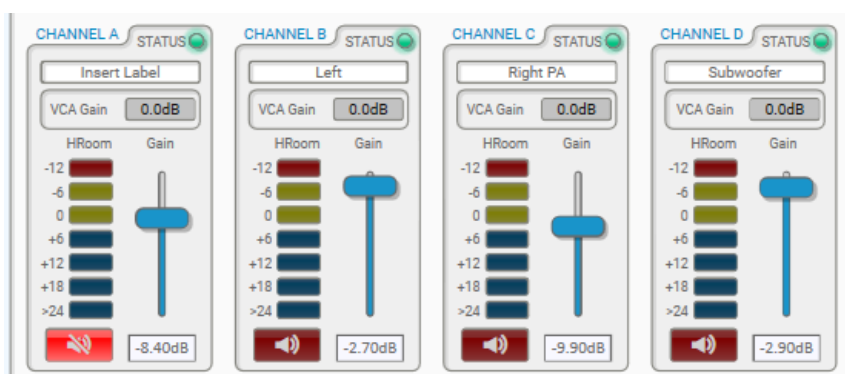

Figure 6 – Screenshot of Channel Section.
- There are fault warnings accompanied by a **red** LED color for the following conditions: Temperature Fault, Fan Fault, Vaux Fault, and Mains(V) Fault. If the user witnesses a **red** LED color they can hover over the LED and a flag will indicate which alarm has been triggered.
- The Channel Section is made up of the following controls (Figure 6):